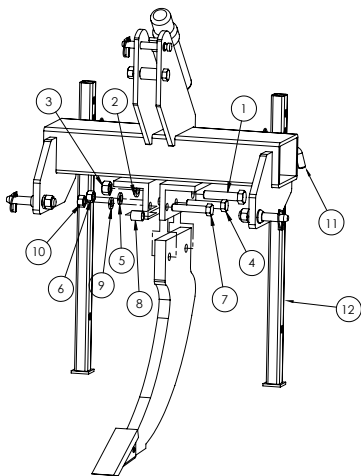

Figure 2. 1S Shank Assembly
3. Place the parking stands Figure 2 (Ref. 12) into the frame and secure with pins(Ref. 11).
4. Attach the shank into the two welded angle brackets on the frame, as shown in Figure 2 using one 7/8" x 4" GR. 5 bolt supplied (Ref. 1), one 7/8" lock washers (Ref. 2) and one 7/8" hex nuts (Ref. 3) and one 3/4" x 4" GR. 2 shear bolt (Ref. 4), one 3/4" lock washer (Ref. 5) and one 3/4" hex nut (Ref. 6).
3. Place the parking stands Figure 2 (Ref. 5) into the frame and secure with pins(Ref. 4).
3. Place the parking stands Figure 2 (Ref. 8) into the frame and secure with pins (Ref. 7).